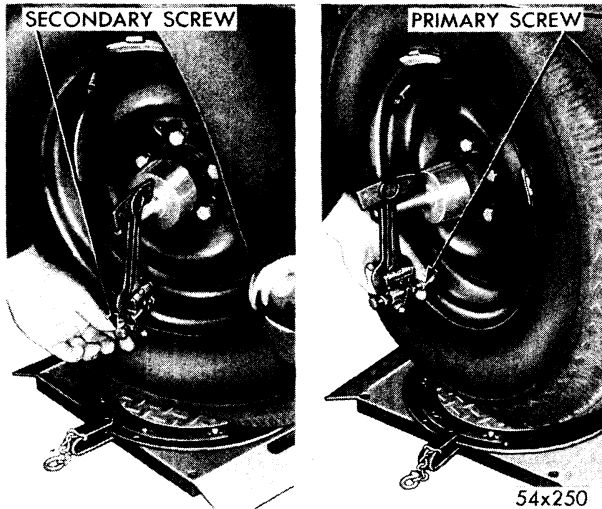

Fig. 76—Checking Caster (Tool 3409)
- (1) Be sure king pin inclination and camber angle are correct. Refer to Paragraphs 21 through 23, King Pin Inclination and Camber.
- (2) With gauge on right wheel, as shown in Figure 76, turn front wheels to left until right wheel has turned beyond 20 degrees, as indicated on turntable scale. Allow wheels to back off to exactly 20 degrees for